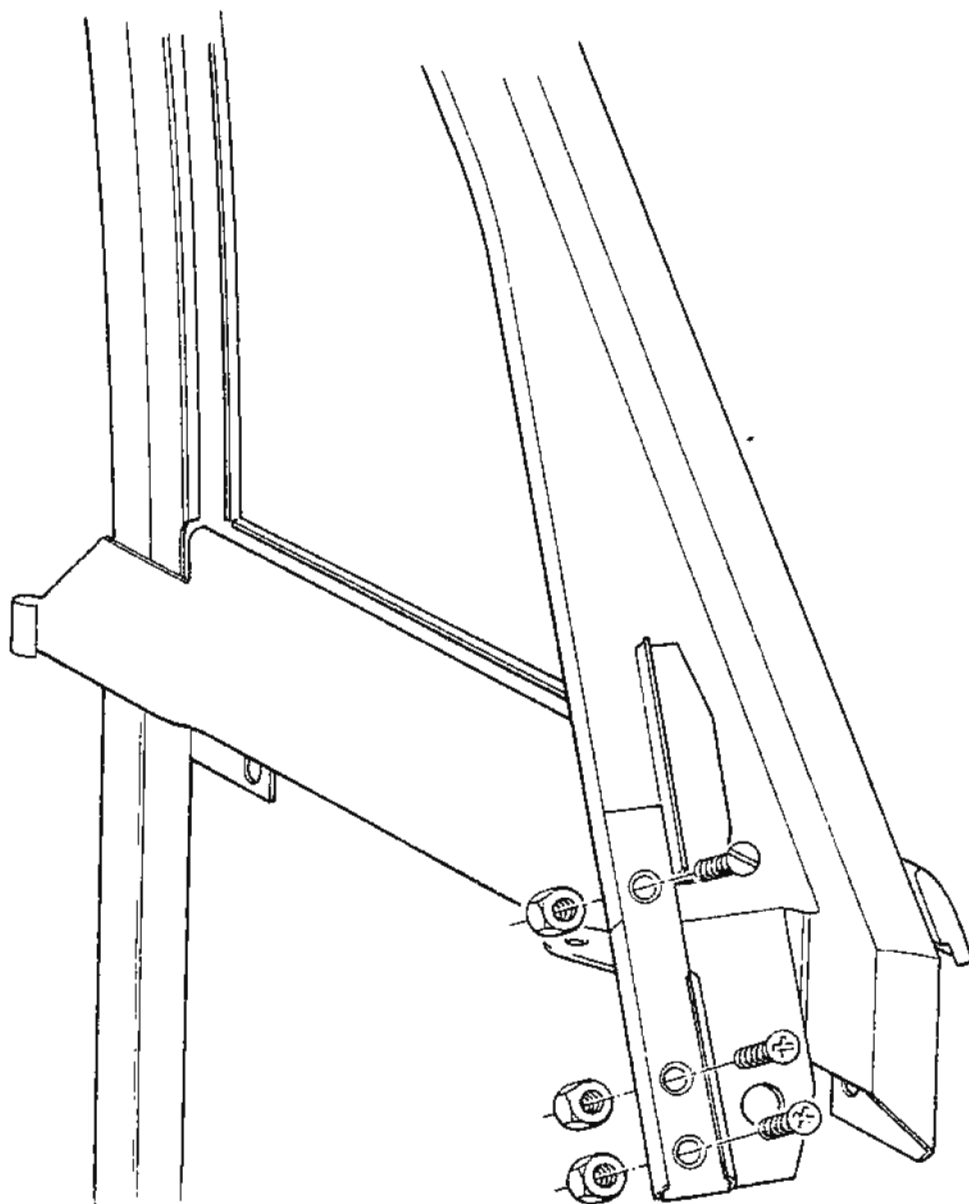

Fig. 2
- 12a. From the kit of parts supplied, position the extension leg using the original stiffening plate to locate the extension leg to the window frame. (Use suitable nuts and bolts as shown in figure 2).